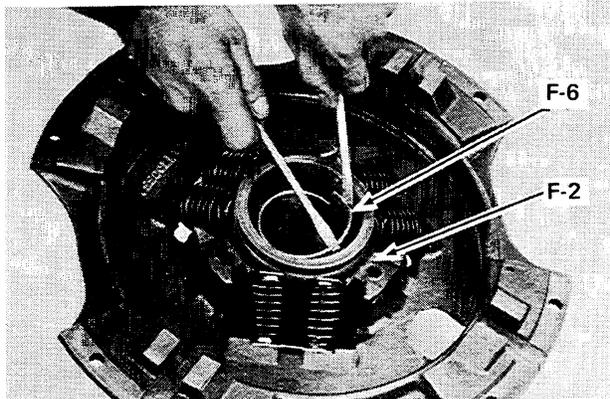

Figure 10:
8. Remove snap ring (F-6) from release sleeve retainer (F-2) (see Fig. 10).